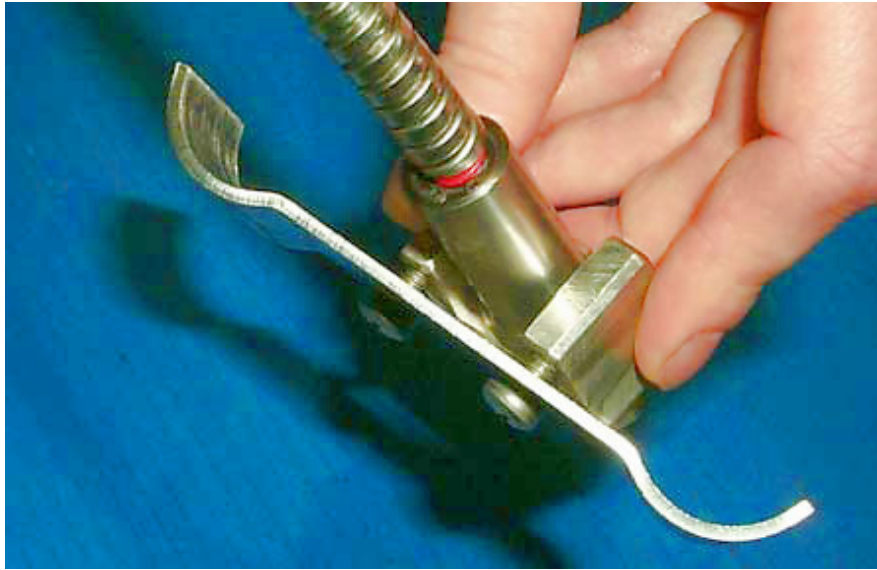

Figure 14 UV Sensor Mounting Bracket
- 3. Position one side of mounting bracket on U-shaped sensor bracket and attach loosely with screws and split lock washers. Refer to Figure 14.